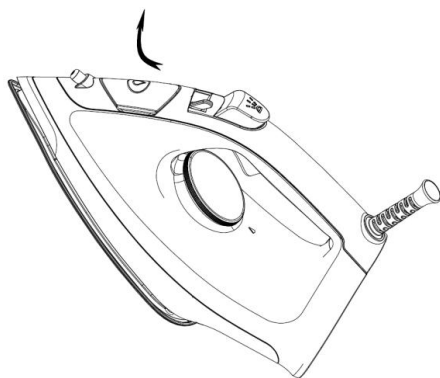
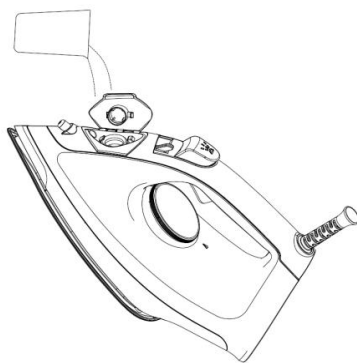

Fig.1
Fig.2
2. Open the water inlet cover (see Fig.1) and tilt the iron for 30 °. Pour an appropriate amount of water into the water tank by a measuring cup (see Fig.2). It is best to use pure water or distilled water with less calcium particles, and ensure that the water does not exceed the maximum water level line marked on the water tank. Press the water inlet cover to make it close. A sound of “Click” can be heard if the water inlet cover is closed well in position.